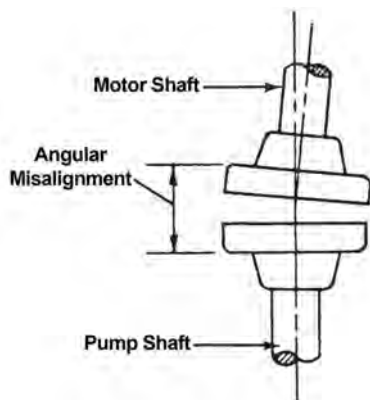

Fig. 3
2. Check **Angular Alignment (Fig. 3)** with a micrometer or caliper. Measure from the outside of the one flange to the outside of the other at intervals around the periphery of the coupling. Determine the maximum and minimum dimensions. DO NOT rotate. The difference between the maximum and the minimum must not exceed .010". If a correction is necessary, be sure to recheck the parallel alignment.